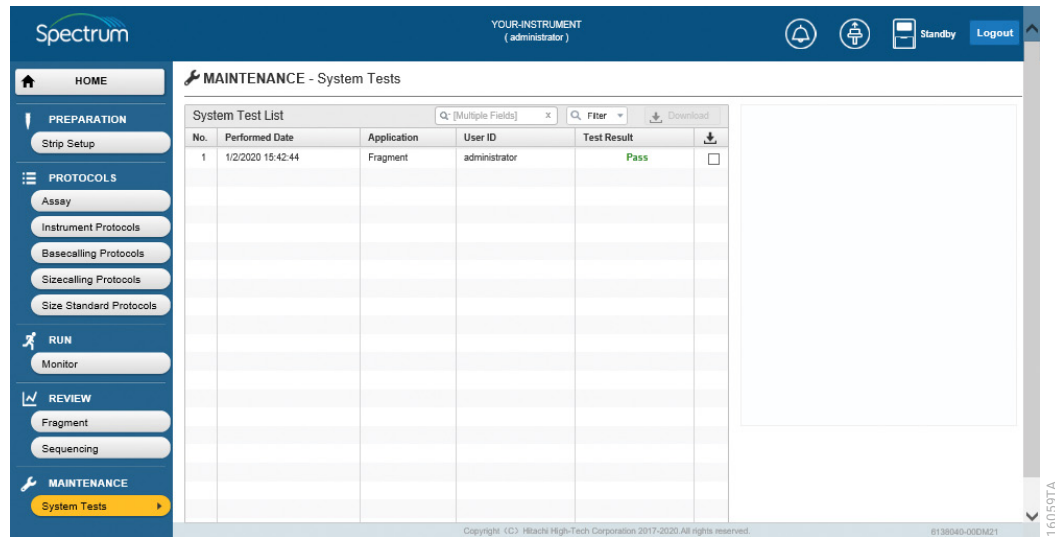

Figure 111. Searched and filtered System Tests.
- The System Tests that meet the desired search and filter parameters are displayed at the top of the System Test List (Figure 111).